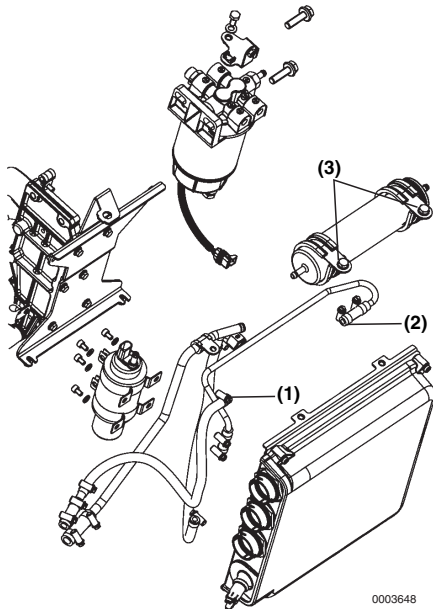

Figure 5
3. Loosen inlet (**Figure 5, (1)**) and outlet (**Figure 5, (2)**) hose clamps and remove hoses from filter.
4. Remove bolts (**Figure 5, (3)**).